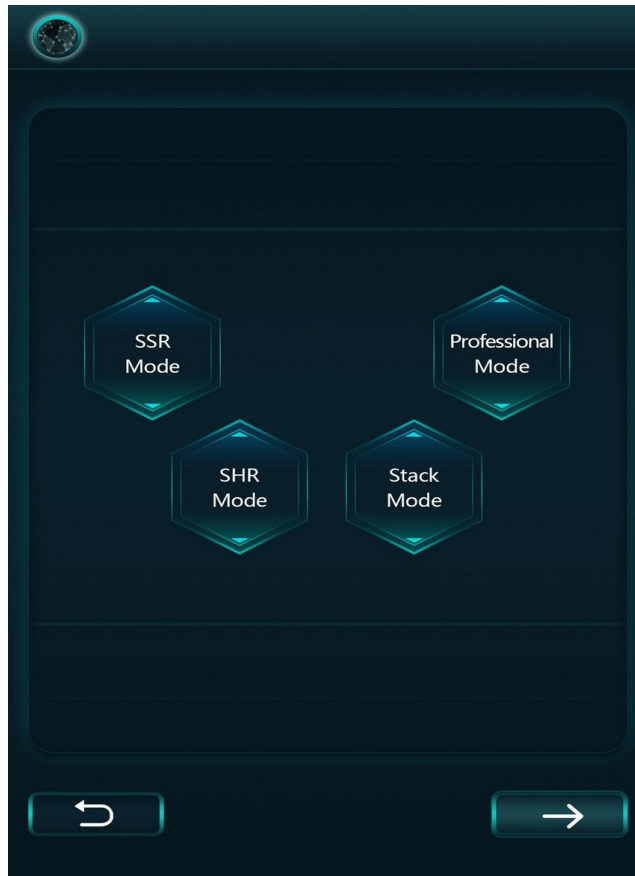

Figure 5.30
2. Once you enter the handpiece icon, follow the next pages to select basic data: gender and skin type (see Figure 5.30), then press Enter for the operation mode.